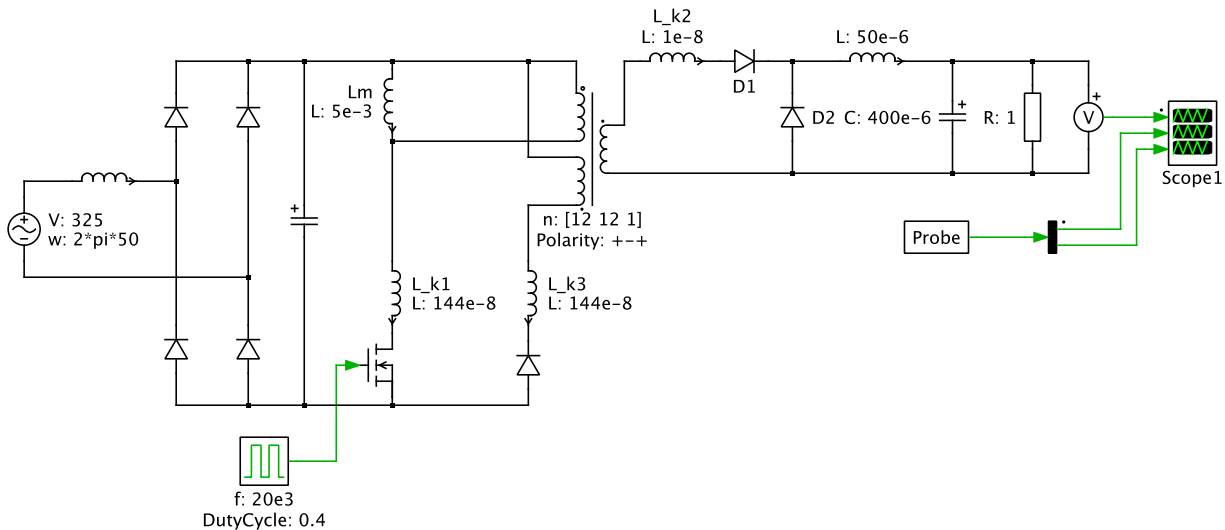

Figure 2: Transformer with leakage added on all three windings
- 1 Add leakage inductances of $144e-8$ H to the primary and demagnetizing windings as shown in Fig. 2 and run the simulation.
- ② Why does this create a problem? (Look at the conduction state of the semiconductors and try to find a path for the magnetizing inductance current.)